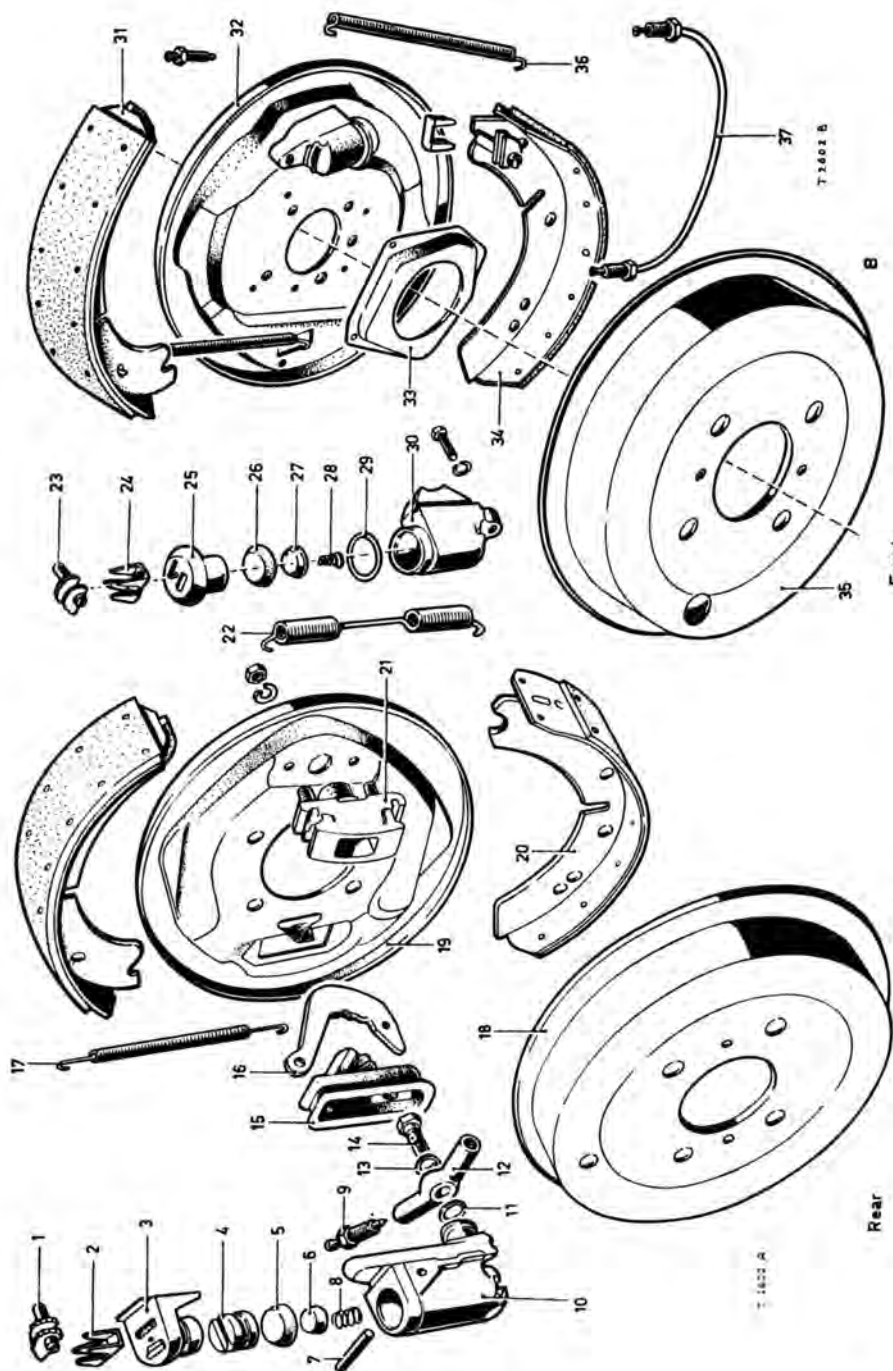

Fig. 33. Brake assemblies, front and rear (drum type)
A. Lockheed drum brakes: Two leading shoes on the front wheels; one leading and one trailing shoe on each rear wheel. The parking brake operates the rear brakes mechanically. The front and rear brake assemblies are shown in Fig. 33.
Key to Figure 33: